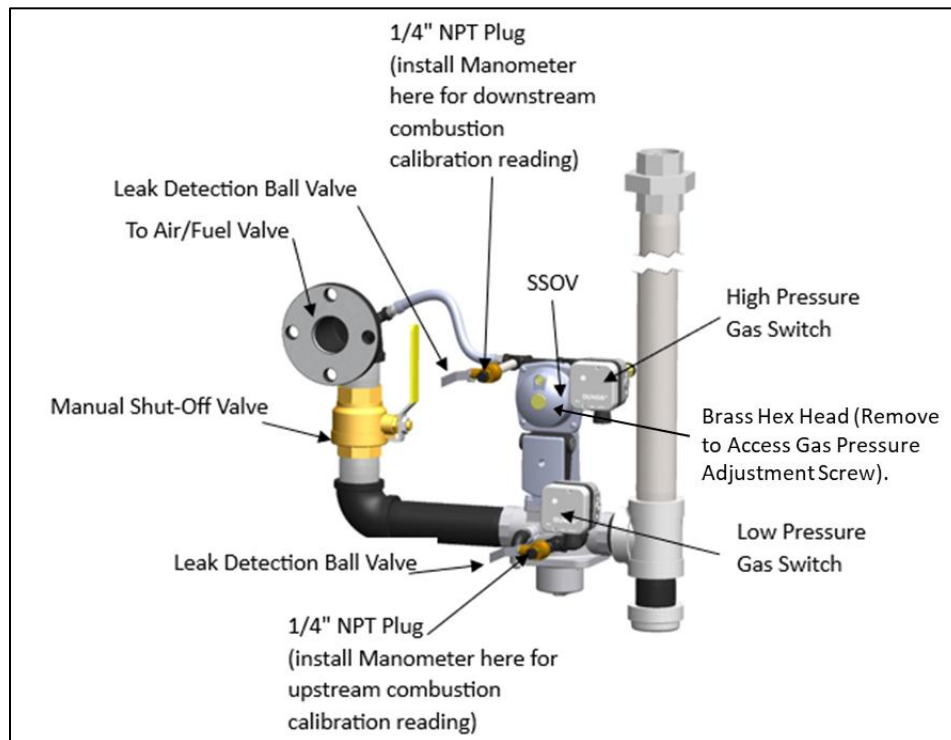

Figure 4-1: Gas Train Components and Instrument Connections
Figure 4-1 shows where the manometer is installed on both upstream and downstream locations.
3. Remove the 1/4" NPT plug from the leak detection ball valve on the upstream or downstream side of the SSOV, as needed during testing, as shown in Figure 4-1.
3. Connect manometer directly to the Low and High Gas Pressure Switches (Figure 4-1).